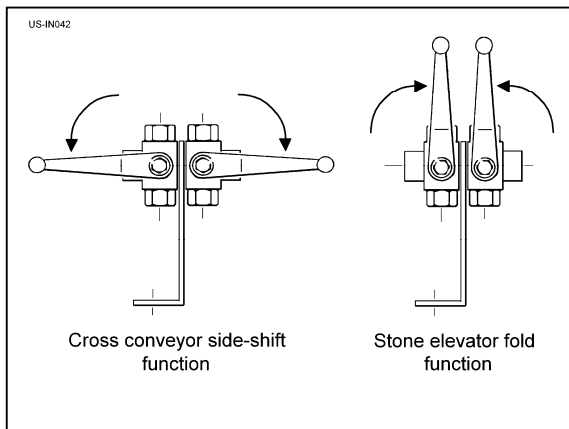
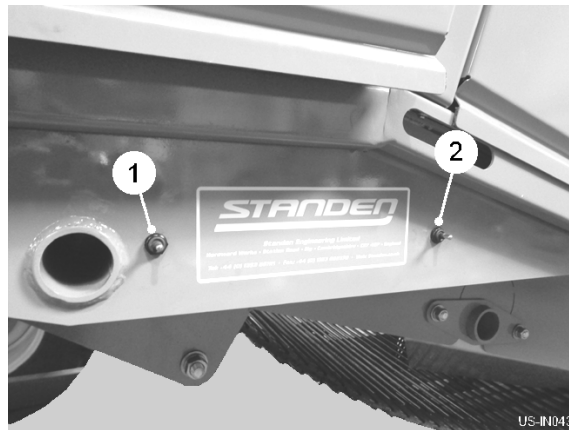

Fig 16
Fig 17
The stone elevator function is selected by resetting the two manual valves (see fig 16) behind the 3rd LH guard door. Raising / lowering of the conveyor is controlled by the two external switches (item 1 & 2, fig 17) on the RH side of the machine.
To unfold the stone elevator, set the valve handles as shown (see fig 16).
Reset the valve handles to 'cross conveyor function' (see fig 16). Using the switches (item 1 & 2, fig 17), carefully move the cross conveyor sideways to close the gap between the conveyor and the stone elevator flights. Ensure the flights do not come into contact with the cross conveyor web when running.
Finally, reset the valve handles to 'stone elevator function' (see fig 16) to prevent inadvertently side-shifting the cross conveyor into the elevator during work.